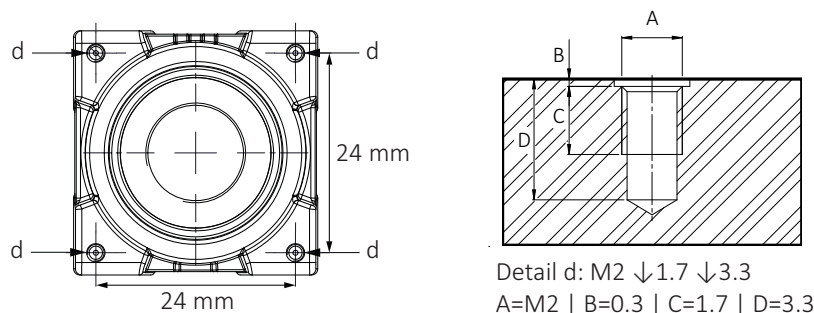

Figure 13: Camera front with mounting threads (c)
1. Mount the camera to the base using suitable M2 screws at 0.17 Nm maximum torque for a thread engagement (C) of 1.7 mm between screws and mounting threads, see Figure 13. For technical drawings, see Dimensions and mass on page 48.